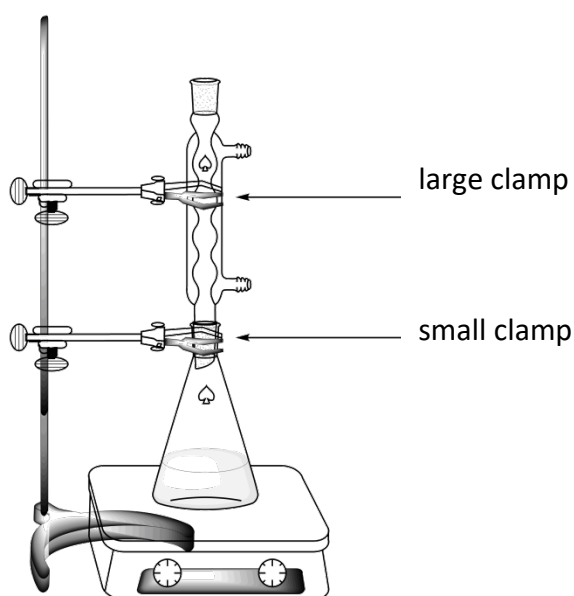

Figure 1. Setup for heating the reaction mixture under reflux
- Attach** the reflux condenser by loosening the large clamp and adjusting the ground joints (see Figure 1). **Raise** your HELP card. A lab assistant will come to turn on the water and set the hotplate.
2. **Perform** the recrystallization of the crude product contained in the 50 mL ground-joint conical flask with the appropriate amount of this water/ethanol mixture, using the same setup as for the reflux heating (see Figure 1). **Raise** your HELP card. A lab assistant will come to turn on the water and set the hotplate. **Add** the solvent through the top of the condenser.